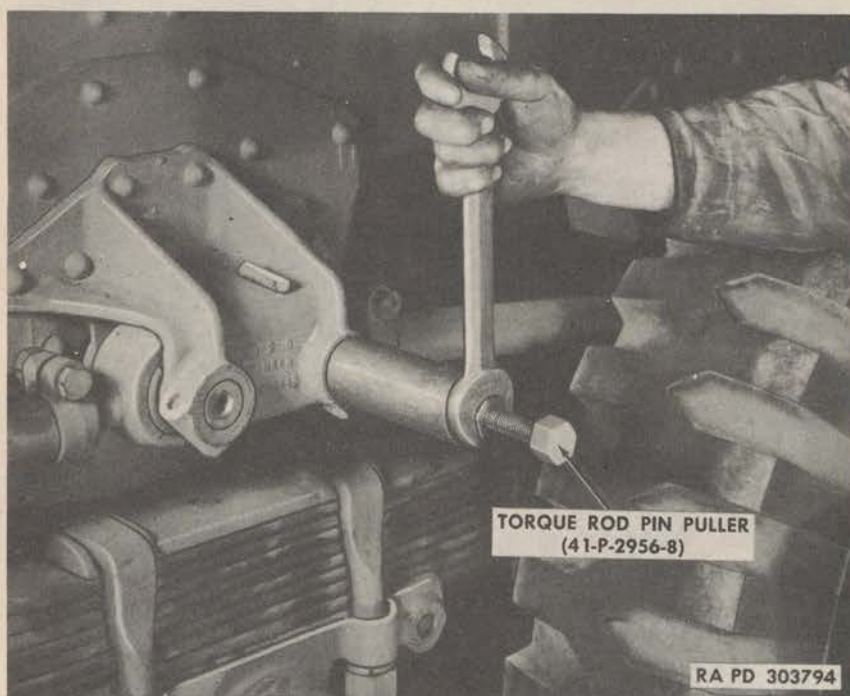

Figure 156—Pulling Upper Torque Rod Center Pin
(2) **REMOVE UPPER TORQUE RODS.** Drive out the locking pins on the inner ends of the upper torque rods. Using a hammer and drift punch, drive from the underside of the pin as it is tapered and must be removed in this direction. Use the torque rod pin puller (41-P-2956-8) to remove the torque rod pins at the inner ends of the upper rods (fig. 156). Then remove the nuts and lock washers from the torque rod pins on the outer ends of the upper torque rods. Then knock the inner ends of the upper torque rods out of the torque rod bracket and drive the torque rod pin from the torque rod bracket on the axles at the outer ends of the upper torque rods and remove the torque rods (fig. 157).